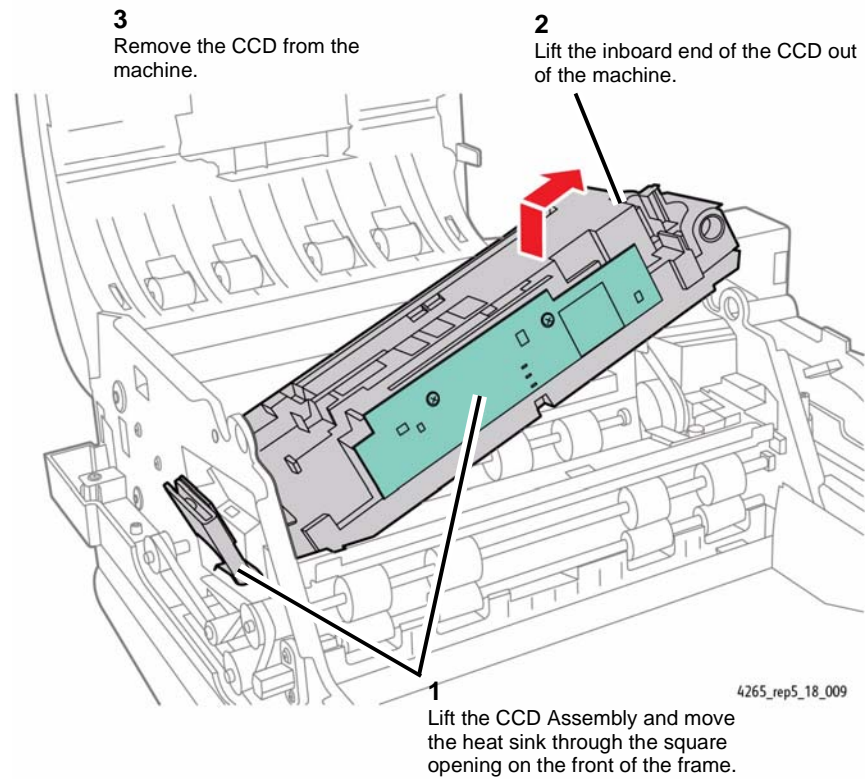

Figure 10 Removing the Charge Coupled Device
12. Remove the CCD Assembly (Figure 10).